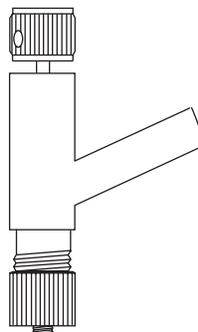

Figure 78. Vacuum Connector Required for Pumping
- Special vacuum pumpdown connector (PN 2550-0181), as shown in Figure 78.